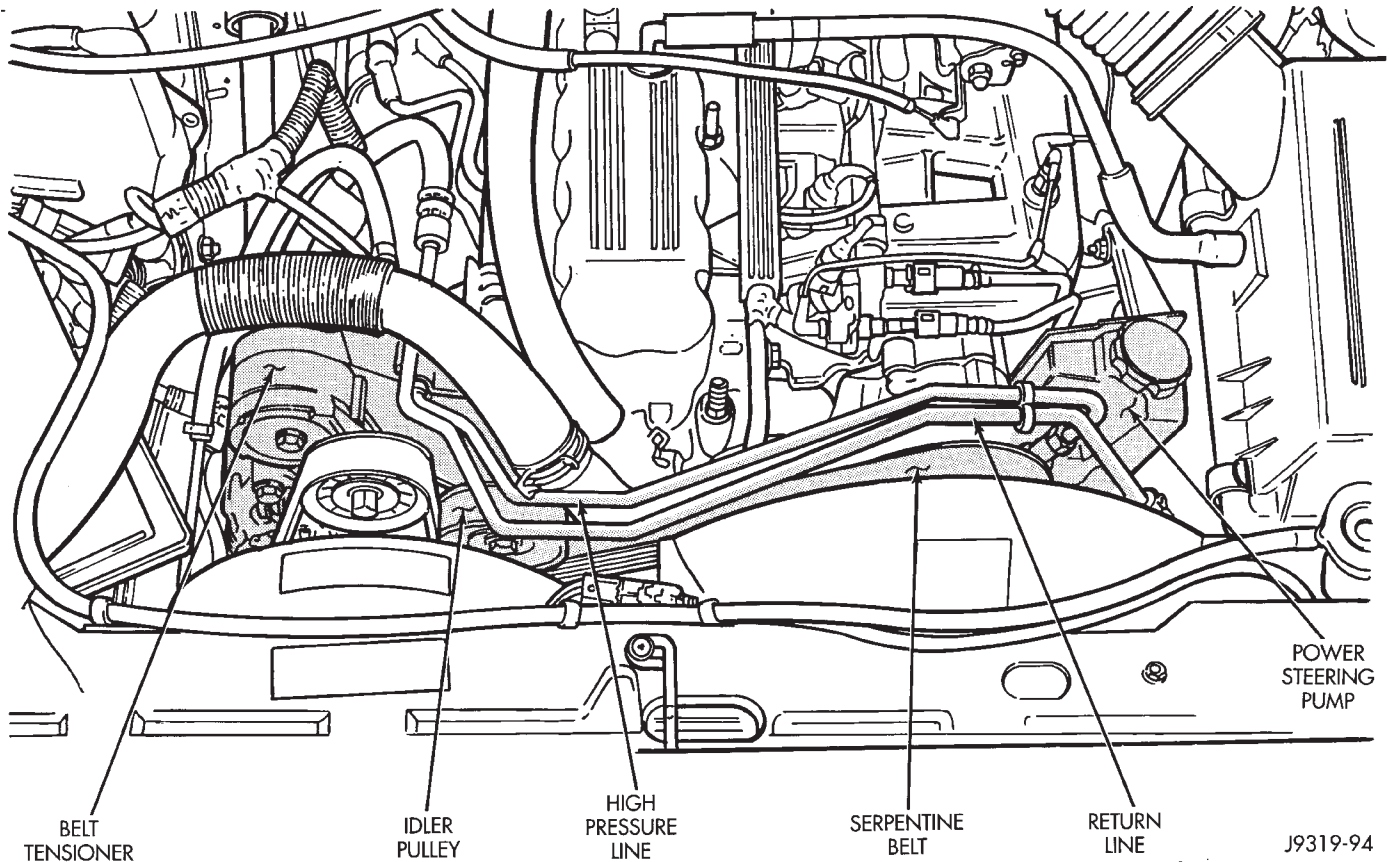

Fig. 5 Pressure And Return Line Routing
(4) Remove pressure and return line bracket at belt tensioner (Fig. 5).